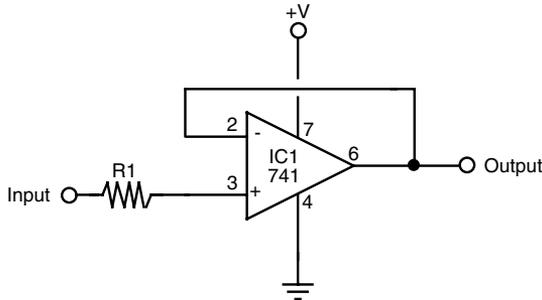
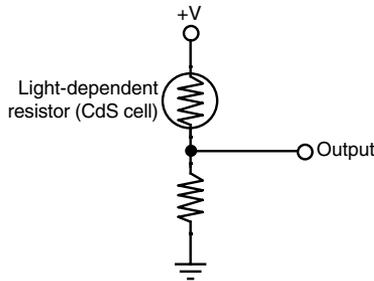

FIGURE 29.17 Op-amp buffer.
FIGURE 29.18 Voltage divider.
The op-amp, as shown in Fig. 29.17, is but one common way of providing high-impedance buffering for inputs to control electronics. R1 sets the input impedance. Note that there is no R2, as in Fig. 29.18. In this case, the op-amp is being used in *unity gain* mode, where it does not amplify the signal.
Figs. 29.18 and 29.19 show common interfaces for analog inputs. These can be connected to analog-to-digital converters (ADC), comparators, buffers, and the like. The most common interfaces are as follows:
- Like a photodiode, the output of a *photodiode* is a varying current. This output can also be converted into a voltage by using a resistor (see Fig. 29.18). (The higher the resistance, the higher the sensitivity of the device.) This output tends to be fairly weak—on the order of millivolts instead of volts. Therefore, amplification is usually required.